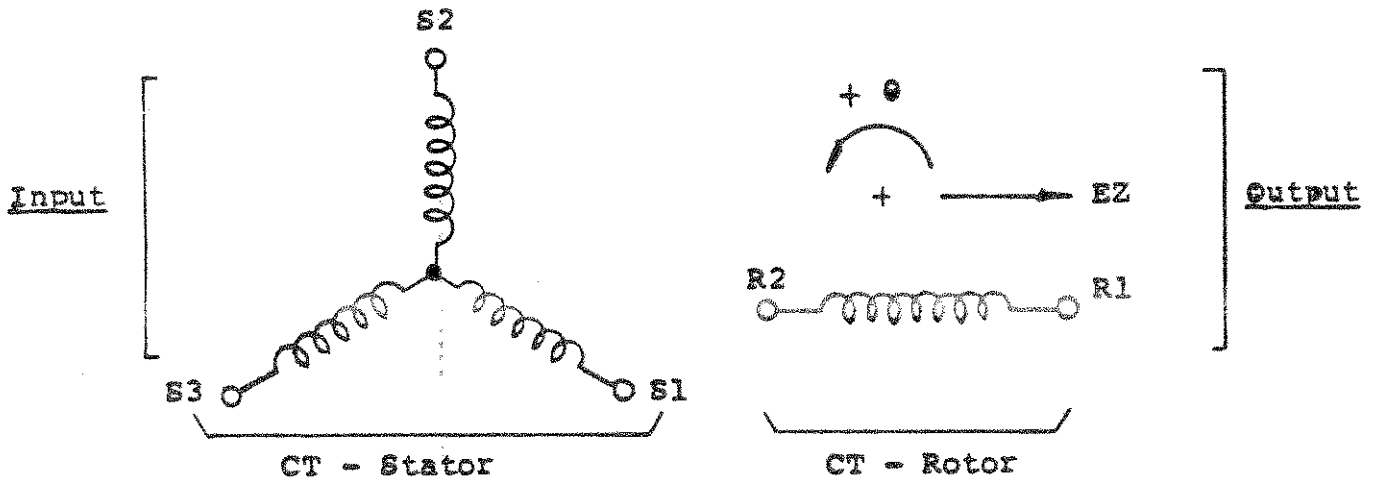
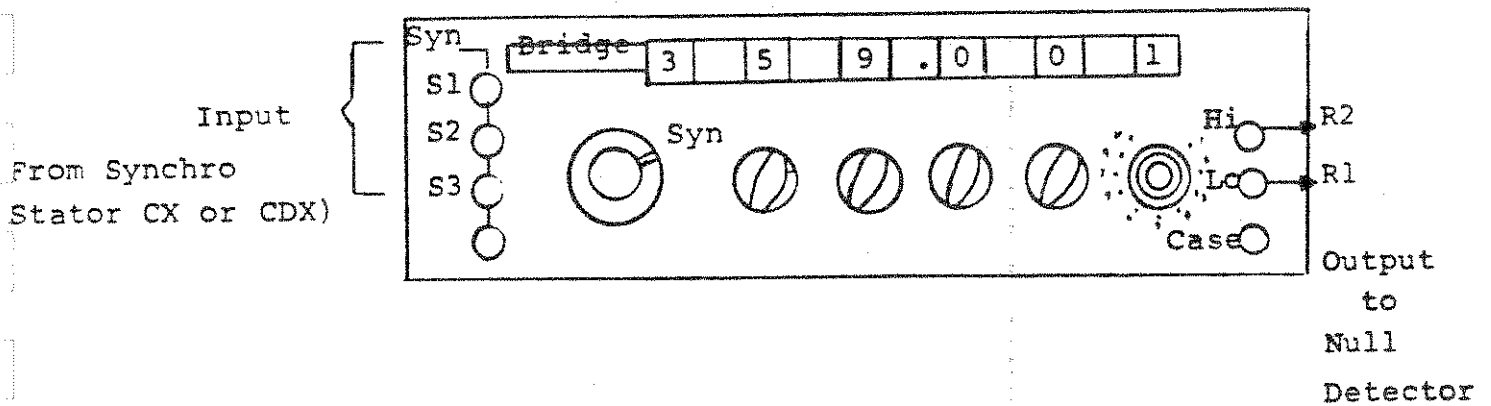

Figure 4-3. Synchro Receiver (at EZ) - CT
Figure 4-4. Model 540/10 Bridge - Synchro Mode
The schematic representation for a synchro receiver (CT) is shown in figure 4-3.
The input and output terminals of the Model 540/10 in the synchro mode, are analogous to those of a synchro receiver (CT). The connections which correspond to figure 4-3 are shown in figure 4-4.